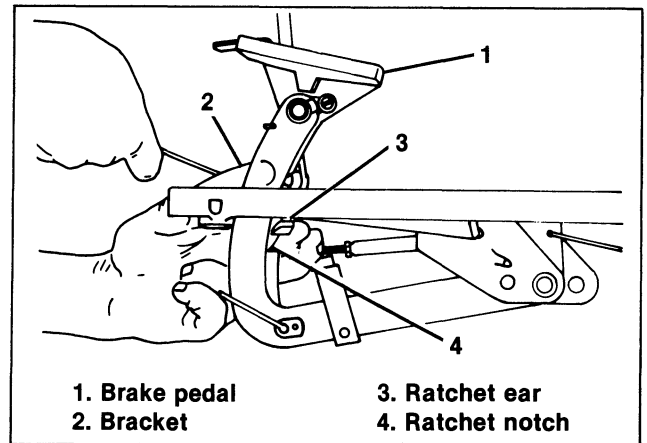

Figure 4-3. Brake Ratchet and Pawl Adjustment
BRAKE RATCHET AND PAWL ADJUSTMENT (Figure 4-3)
1. Loosen but do not remove two accelerator mounting bolts (Figure 4-3).
2. Depress brake and tilt pedal (1) forward.
4. Hold in this position and tighten mounting bolts (Figure 4-3) to 10-12 ft-lbs (1.4-1.6 kgm) torque.